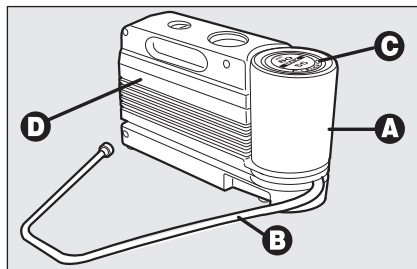

fig. 14
The kit **fig. 14** is placed in the boot. In this container are also housed the screw-driver and the tow hitch.
- a bottle **A-fig. 14** containing the sealer, fitted with: